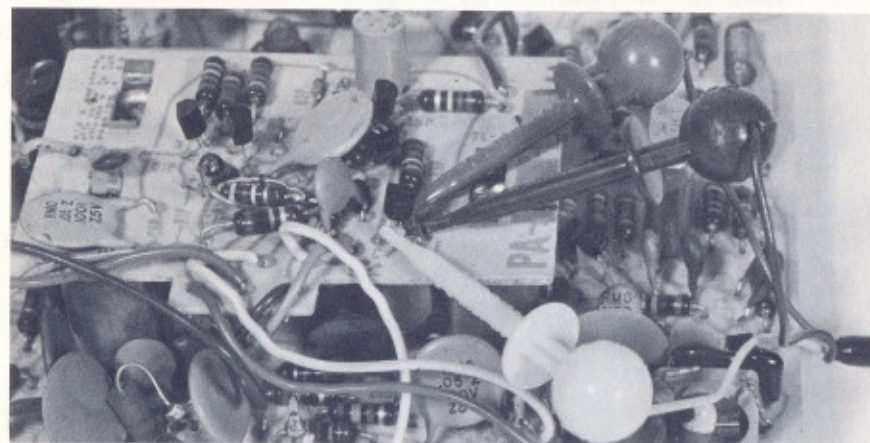

Fig. 6 Connections for Testing Transistor In-Circuit
2. Connect each of the E-Z Hooks® to each leg of the transistor to be tested. In the case of a small transistor with close spacing between the legs, make sure that the test connectors do not short to each other. (See Figure 6).